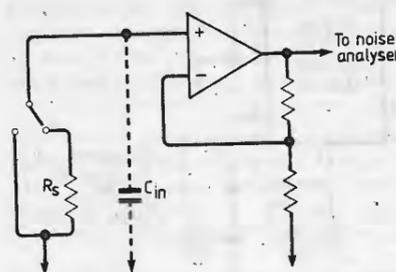

Fig. 7. Measuring noise density of an op-amp.
(1) The device to be investigated is set up with a gain of typically 20 to 100. (see Fig. 7). For op-amps, the non-inverting configuration is most convenient since the source resistance ( $R_s$ ) can be varied independently of the gain. As with any amplifier stage, the following precautions must be taken: